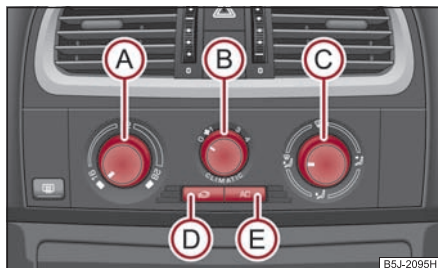

Fig. 120 Climatic: Control elements
The air conditioning system operates when switch  ⇒ page 93, fig. 120  is pressed and the following conditions are met:
- Turn the control dial **(A)** ⇒ fig. 120 to the right in order to increase the temperature.